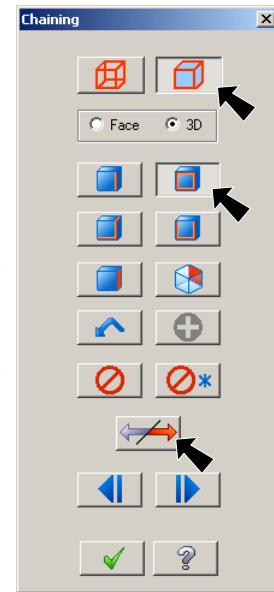

Fig. 78
Step 3. Click **Solids**  in Chaining dialog box and select **Loop** , Fig. 78.
Step 5. The chain arrow should point **clockwise** around the chain, Fig. 81. If chaining directions arrow is pointing in the opposite direction - click **Reverse** , Fig. 78.